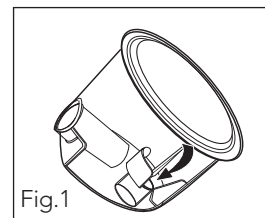

Fig.1
- b. Remove the blue caps and discard them (Fig.1).
NOTE: To completely remove water, guide residual water between vanes and shake well (Fig.1).